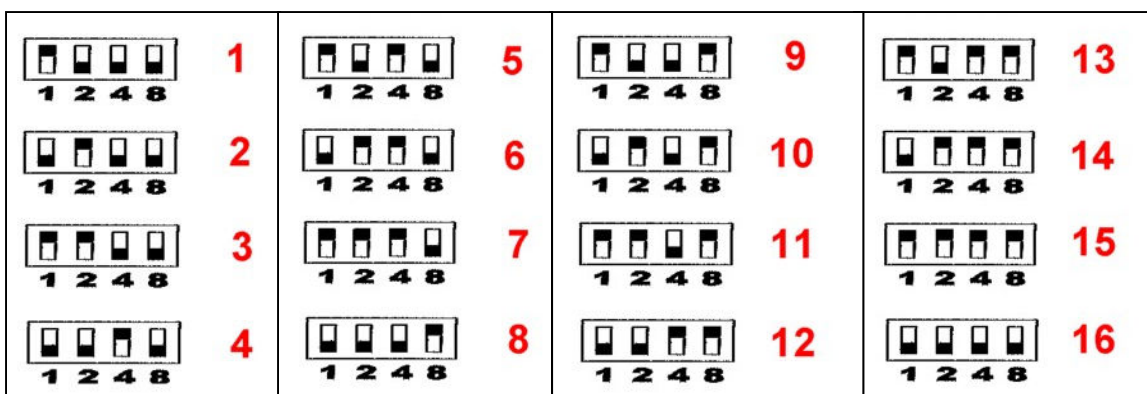

Fig. 15: Compressor Wheel Blade Setting Diagram
2. Set the gauge for your particular compressor wheel. There are 4 dip-switches on the back of the gauge. Set the switches to the correct number of compressor blades based on figure 15 below. (If you desire to use the sensor to pick up a single magnet or machined flat on a shaft, choose 1 blade, or 2 blades if there are 2 magnets or flats, etc.). See figure 14 for example setting for 12 blades. Disregard the “8-6-4” above the dip switches.